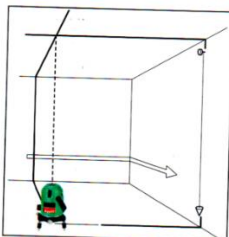

Fig. 8
- 1) Hang a plumb-bob (See the figure 8) from 3 m height of the wall (the height of ceiling is approx. 3 m). Place the unit on the floor at the point of 2 to 5 m away from the wall. Make sure that the air-bubble is centered in the round vial.